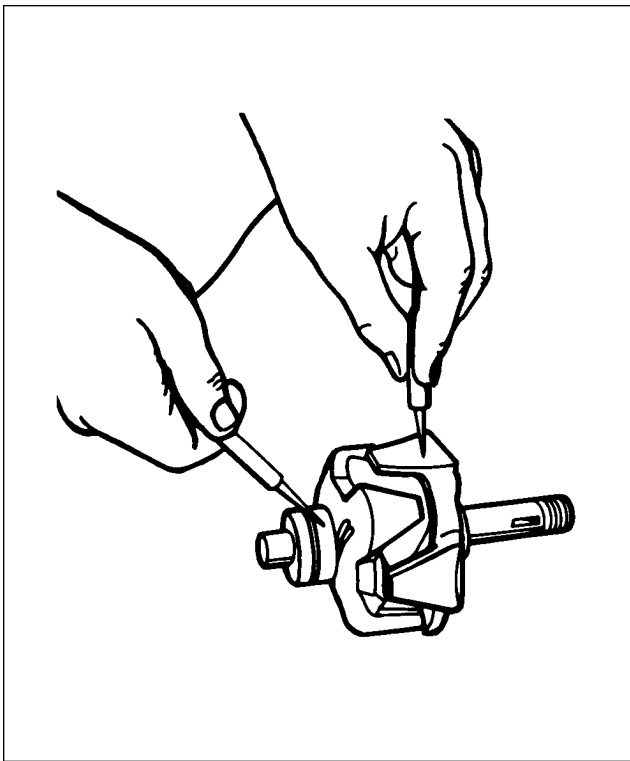

Figure 24-8. Testing Rotor for Grounds
1. Rotor: The rotor should be tested for grounded or shorted windings. The ground test can be made with test probes, connected in series with a 110 volt test lamp, an ohmmeter or any type of continuity tester. (Refer to Figure 24-8.) There must not be any continuity between the slip rings and the rotor shaft or poles. To test for shorted turns in the rotor winding, connect a voltmeter, ammeter and rheostat as shown in Figure 24-9, or use an ohmmeter. Rotor current draw and resistance are listed in Chart 2403. Excessive current draw or a low ohmmeter reading indicates shorted windings. No current draw or an infinite ohmmeter reading would indicate an open winding.